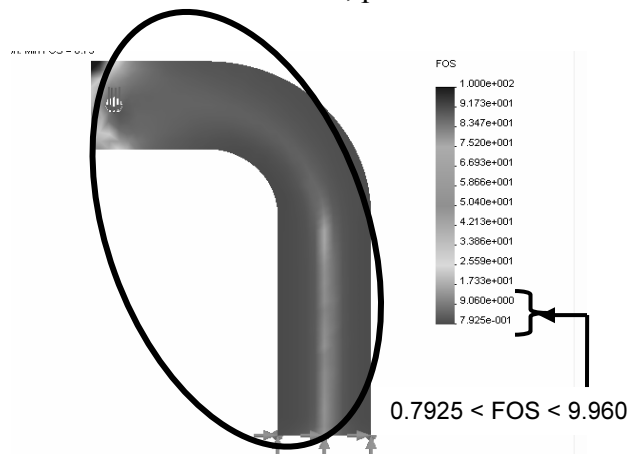

Figure 20 – Default Image produced by the **Design Check** plot.
2. Double-click **Plot1(-FOS-)** and the plot displayed in Fig. 20 appears.
The following observations can be made about Fig. 20.
Also note that this value of safety factor matches that listed at the bottom of the FOS color-scale on the current screen image, Fig. 20. Finally, observe that this value is the reciprocal of the equation appearing in the first **Design Check** window. That is: